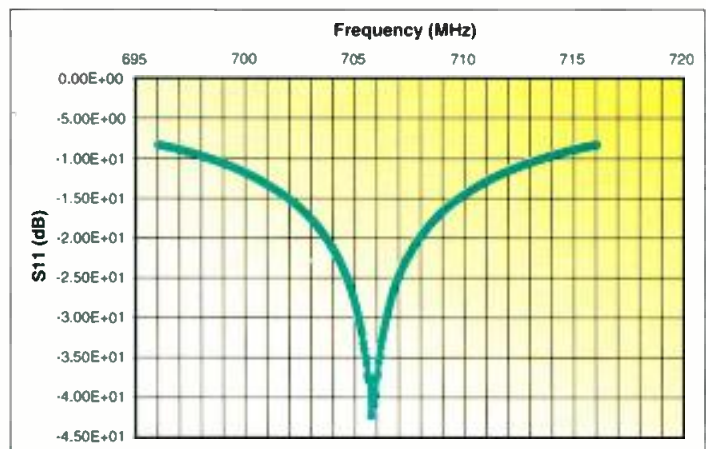
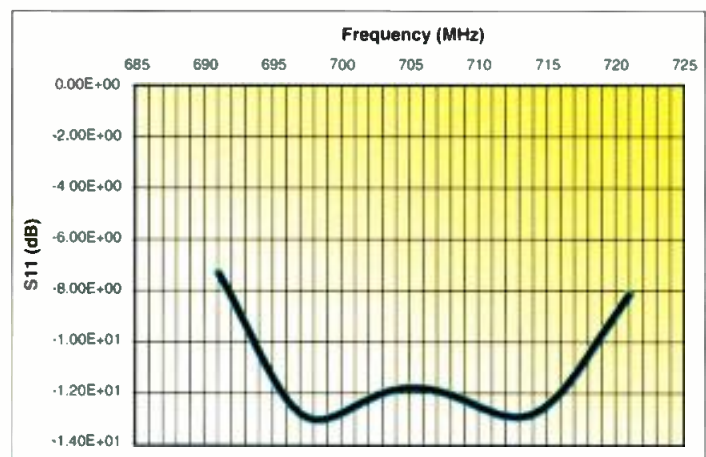

Figure 7. Reflected (S11) bandwidth used for NTSC.
Figure 8. Expanded S11 bandwidth used for 8VSB or COFDM obtained through the use of a double slug tuner.
**Input circuit:** The spectrum of the corrected 8VSB signal is wider than the non-corrected 6MHz signal. In other words, the correction signal has spectral components outside the interval ( $f_c - 3\text{MHz}$ ;  $f_c + 3\text{MHz}$ ). These components must not be reflected by the IOT input circuit. Figure 7 shows the reflected (S11) bandwidth for NTSC. It has been expanded using a double slug tuner as shown in Figure 8.